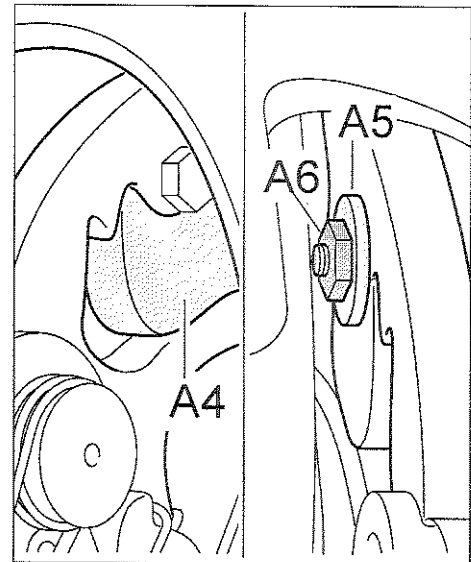

Figure 10
4.2.1 Insert stop segment ⇒ *Figure 10 -A4-* into the teeth of the backrest angle adjustment unit from the outside using needle nose pliers.
4.2.2 Fit plastic washer ⇒ *Figure 10 -A5-* and low-type M5 nut ⇒ *Figure 10 -A6-* and tighten hand-tight using an open-ended wrench.